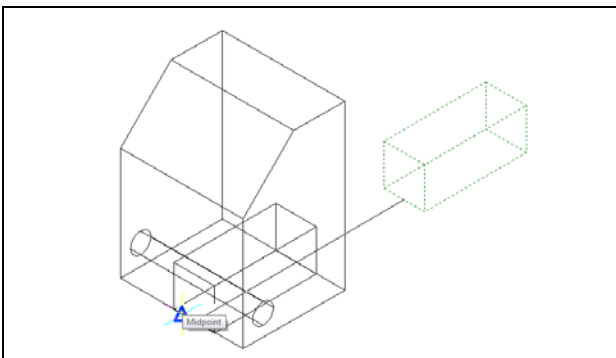
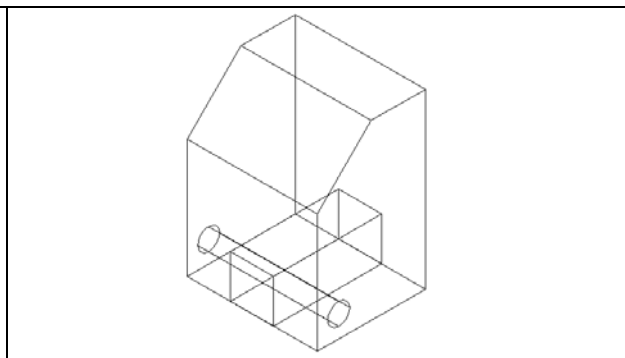

Figure 8.17 – Moving the Box
Figure 8.18 – The Moved Box
To move the box, select the Move tool on the Modify toolbar. Once you choose the Move command, the prompt will be to “Select entities to move:”. Pick the solid box and the command line will respond with “Entities in set: 1”, so just hit **ENTER** to go the second part of the command. Next, you need to specify a “Vector/<Base point>:” on the graphical display. Pick your base point with the Midpoint Esnap, selecting the Midpoint of the bottom left edge of the box as shown in Figure 8.17. The “Displacement point:” is the midpoint of the bottom left edge of the master solid. Pick the second point using the Midpoint Esnap and the solid box will move as shown in Figure 8.18.
8.20. The default to delete the source objects is no, so at the prompt “Delete the original entities? <N>:” just hit **ENTER** and the mirrored and duplicated line from will appear on the other end of the horizontal line (Figure 8.17).